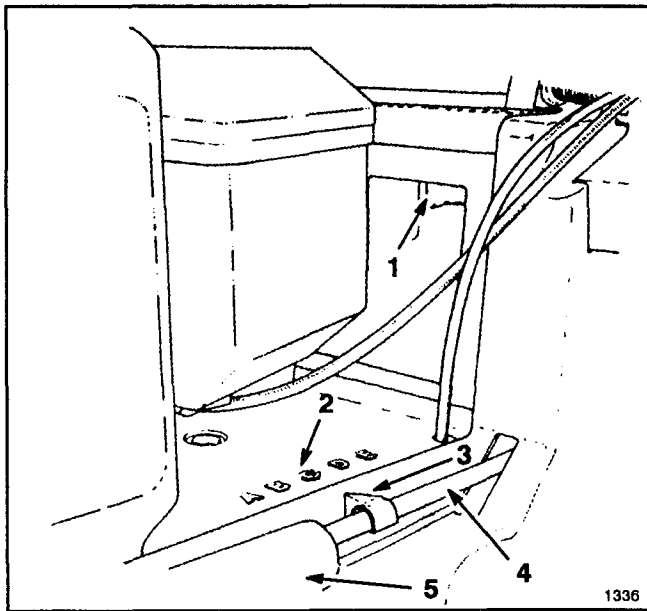

Figure 18
3. Use one or two fingers to squeeze the height-of-cut adjustment lever (Fig. 18).